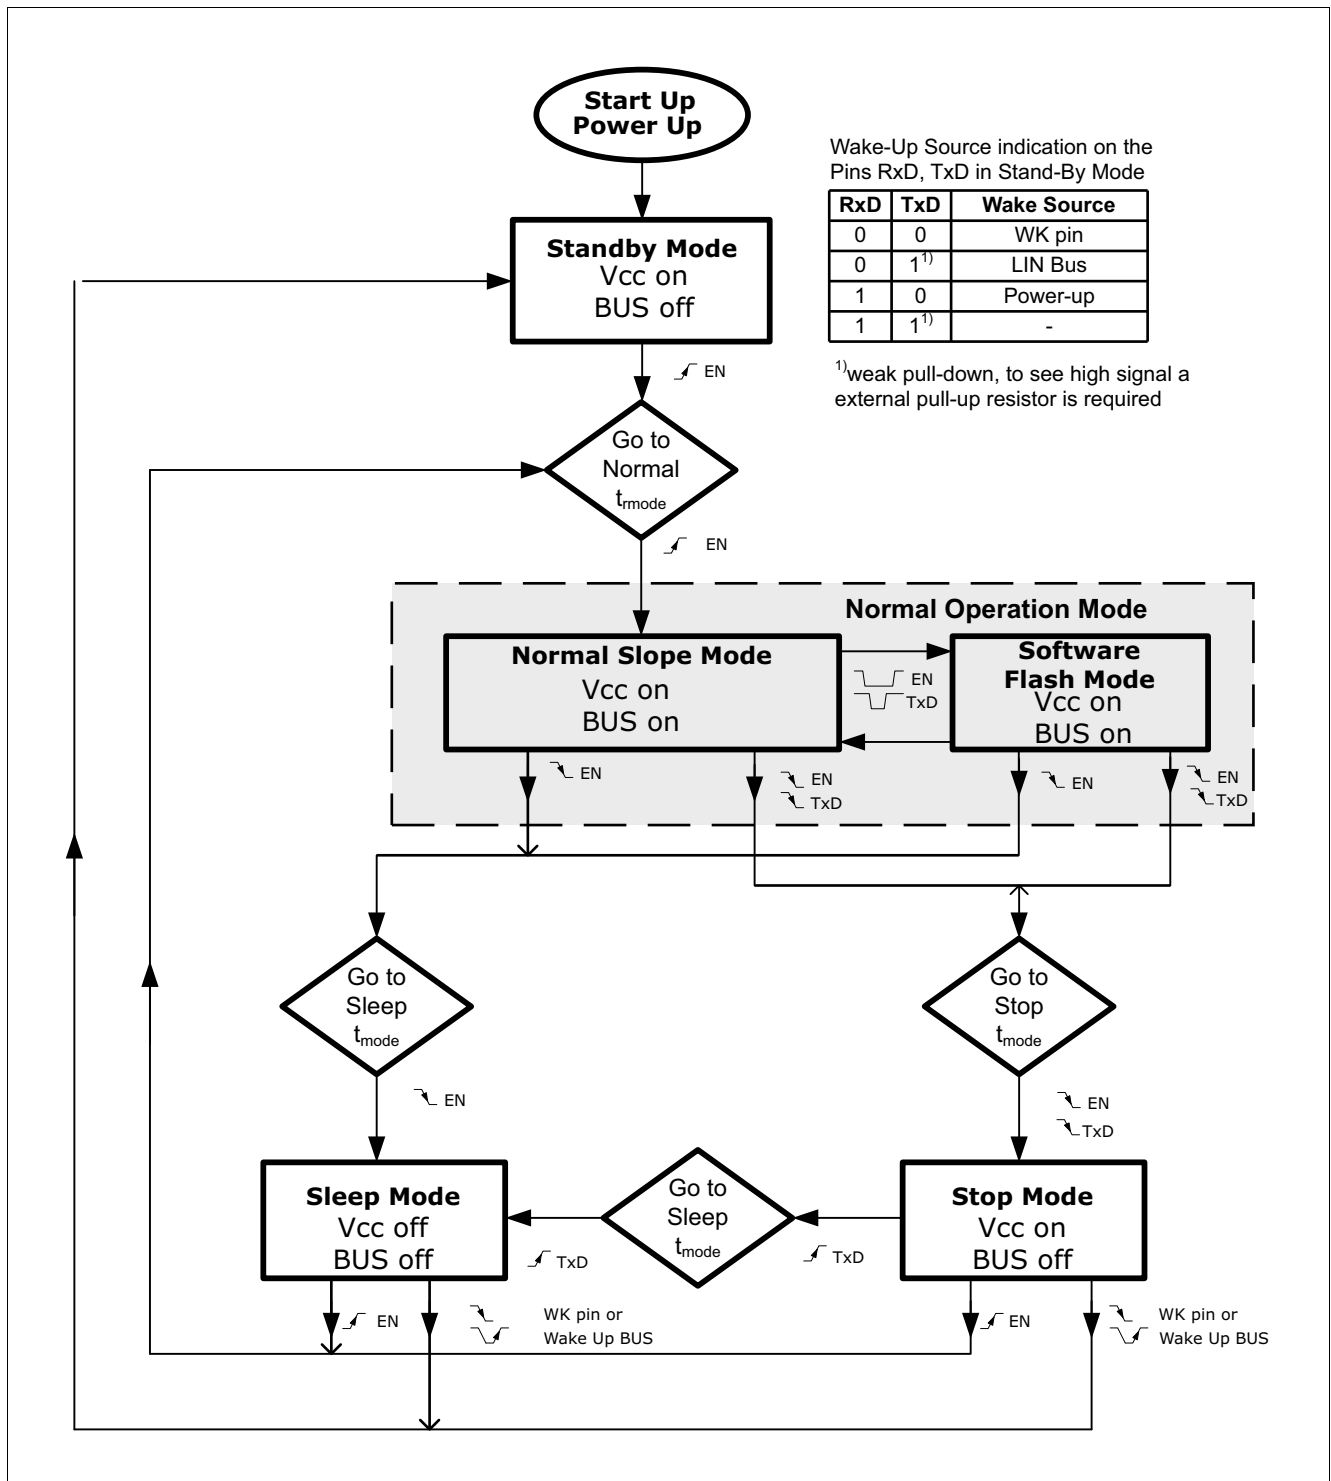
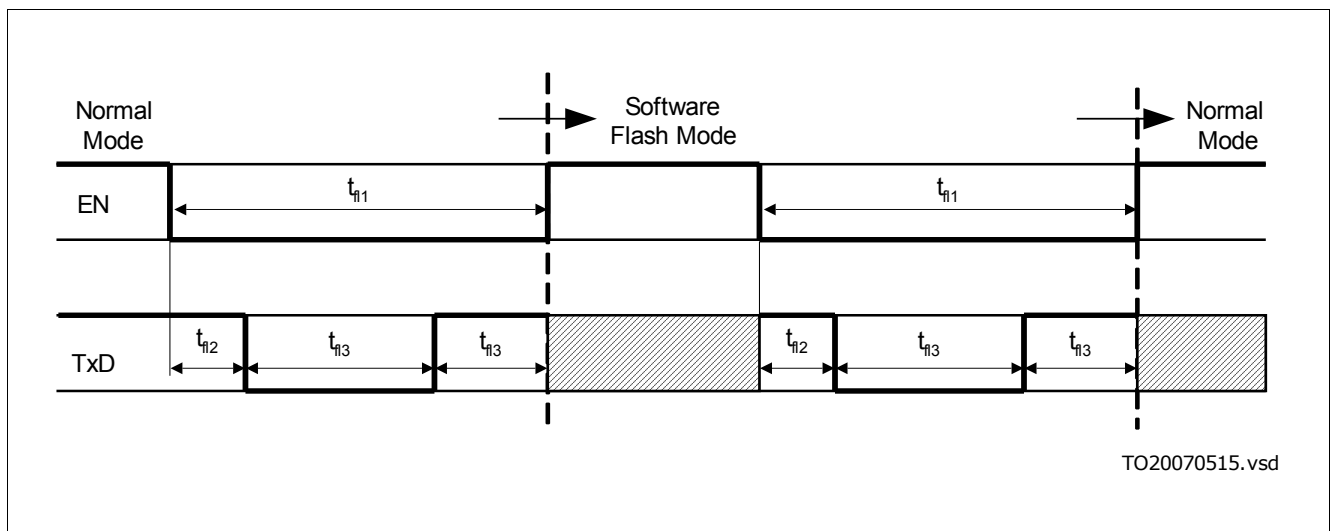

Figure 3 Operation Mode State Diagram
Figure 5 Software Flash Mode
The Normal Operation mode contains 2 sub-operation modes, which differentiate by the slew rate control of the LIN Bus signal (see Figure 3).
- The EN input pin is active. By setting the EN pin to HIGH the TLE8458Gx changes the operation mode to Normal Operation Mode (see Figure 3).
The Software Flash Mode can only be entered from Normal Slope Mode (see Figure 3). By setting the EN pin to low for the time  $t_{fl1}$  and by generating a falling and a rising edge at the TxD pin with the time  $t_{fl2}$  and  $t_{fl3}$  during the low phase of the EN pin, the TLE8458Gx changes to the Software Flash Mode (see Figure 5). Vice versa, the TLE8458Gx changes from Software Flash Mode to Normal Slope Mode by applying the same sequence to the EN pin and the TxD pin.